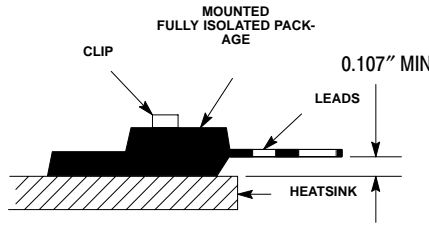

Figure 4. Clip Mounting Position for Isolation Test Number 2
1. UL Recognized mounting method is per Figure 4